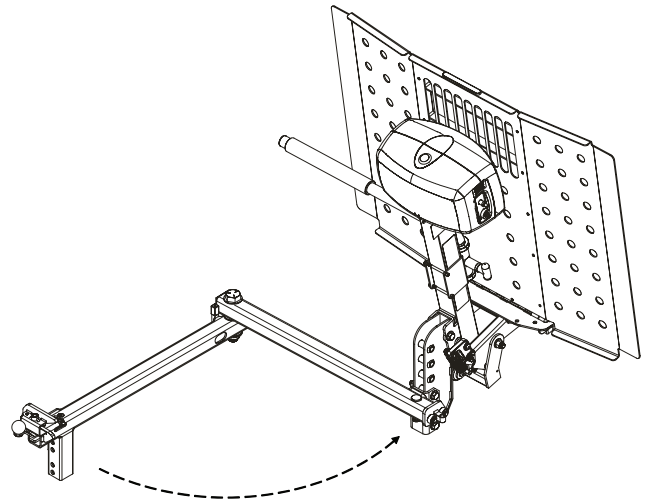

Figure 3-11
3. Grasp the lift firmly and swing it out, away from the vehicle. The swing-away opens up to allow full access to the vehicle's cargo area. See Figure 3-11.